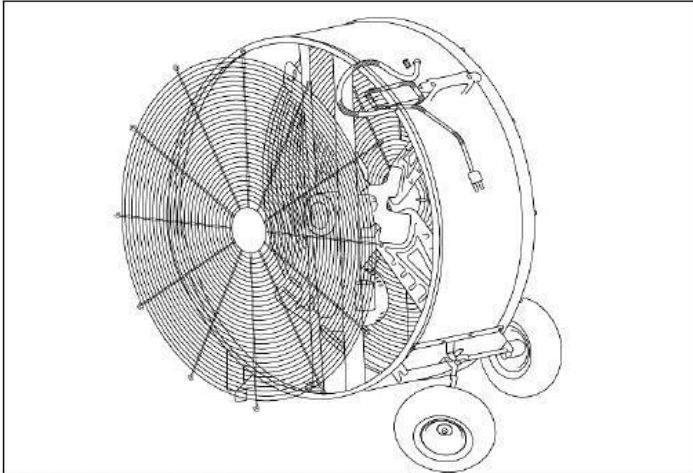

Figure 2: Removing Guard
1. Remove the bolts on the tail guard and tilt wheel (Figure 2).